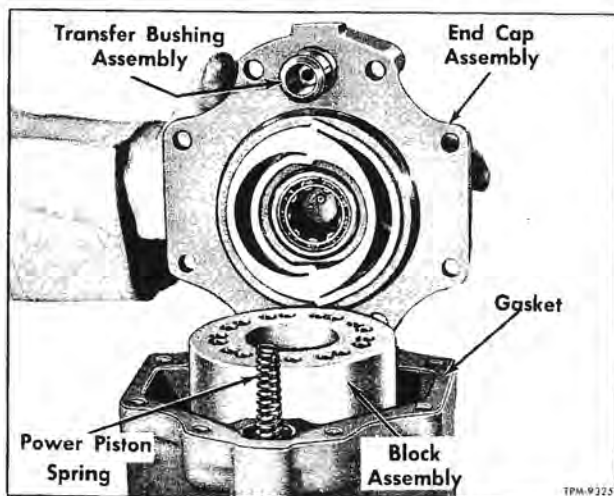
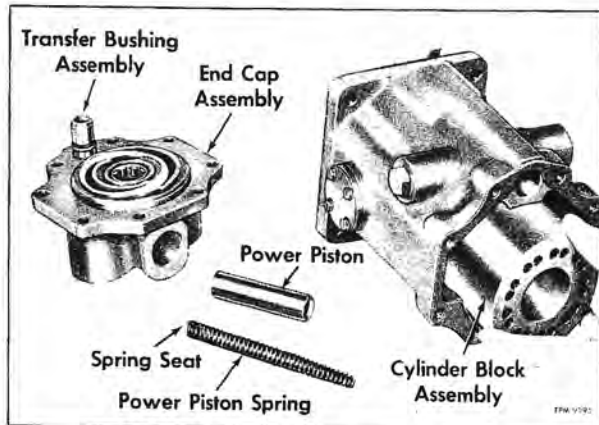

Figure 43—Pump End Cap Assembly Removed
Figure 44—Replacing Pump Cylinder Block
5. SLIDE end cap (19) off cylinder block face. See figure 43 which shows cover removed. End cap gasket (18) can be removed from pump housing (45).
6. Referring to figure 43, pull or twist transfer bushing assembly (39) from end cap. Also lift power piston spring (40) from bore in housing.
7. Pour a small amount of solvent or kerosene into pump housing to break the hydrostatic seal on slipper heads of pistons (14).
8. While holding cylinder block from sliding out of housing, tip housing to drain off excess fluid. Place the pump horizontally on work bench. Turn the cylinder block (13) carefully out, then remove from housing as shown in figure 44.